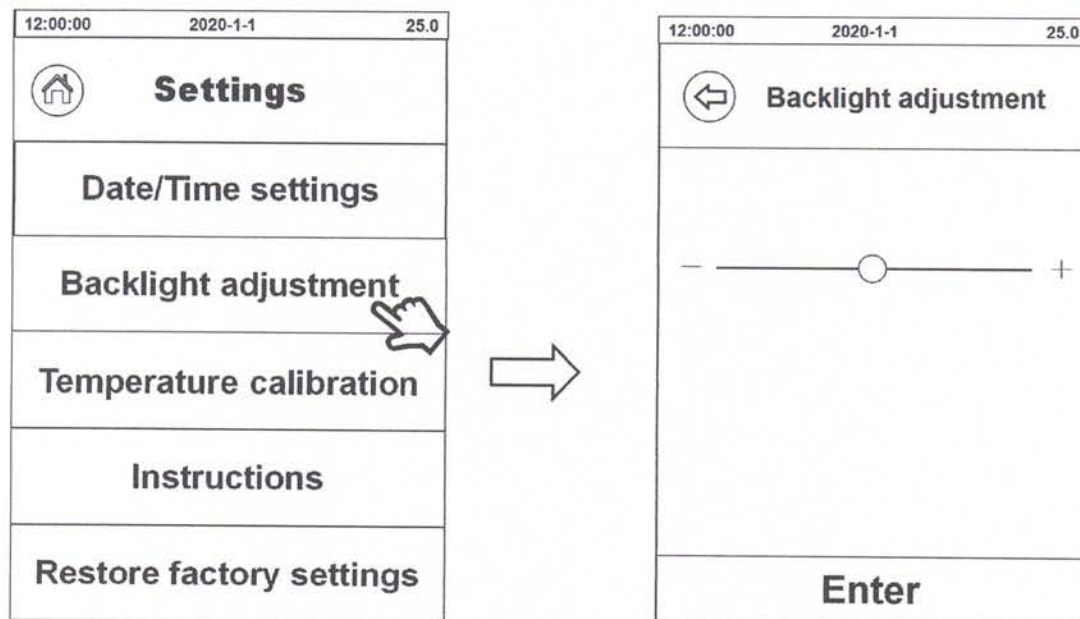

Fig. 29
2) Backlight adjustment: Click "Backlight adjustment", and adjust the screen brightness by "-" "+" at both ends of the indicator bar or directly dragging the circular adjustment button. (Fig.29).